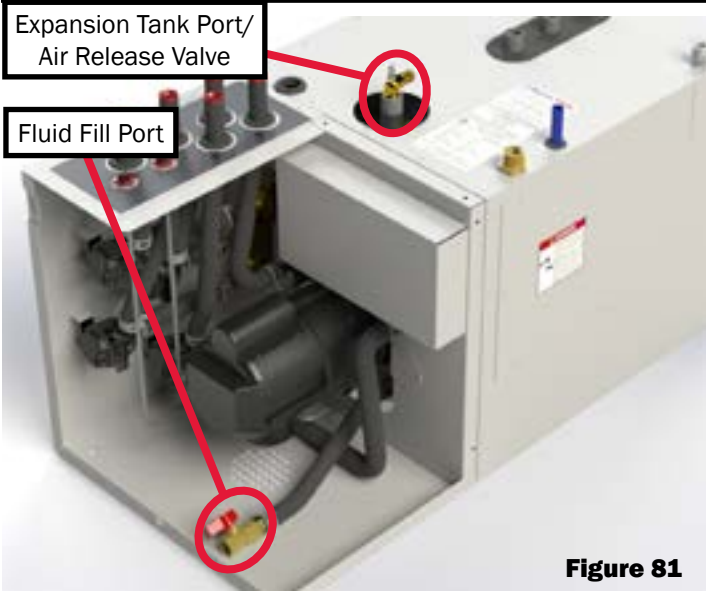

Figure 81
3. Open the Aqua-Hot's drain valve located at the front of the heater. Reference Figure 81.